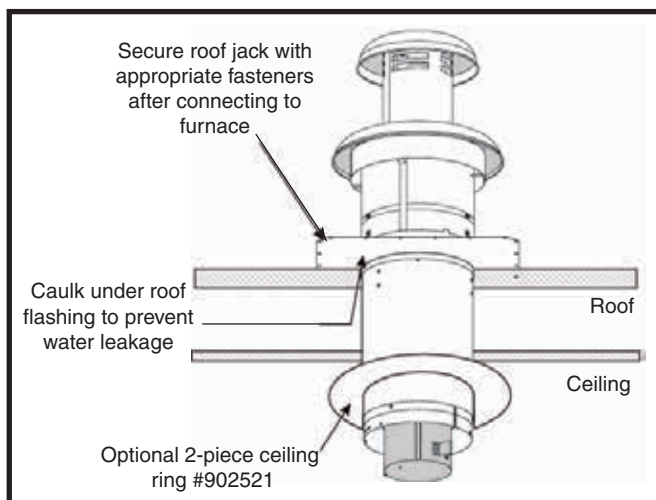
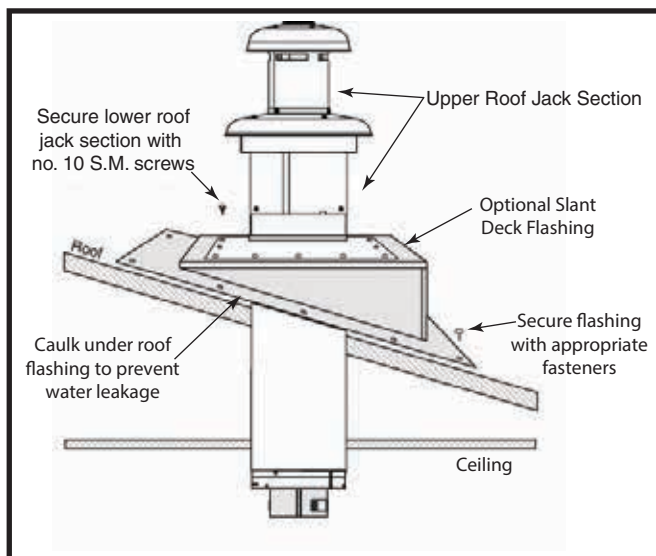

Figure 20. Flat Roof
Figure 21. Pitched Roof
1. Apply caulking compound on underside of roof flashing to form a continuous strip at least 3/8" wide around the underside of the perimeter of the flashing. For flat roof, see Figure 20 or see Figure 21 (page 12) if roof is pitched.